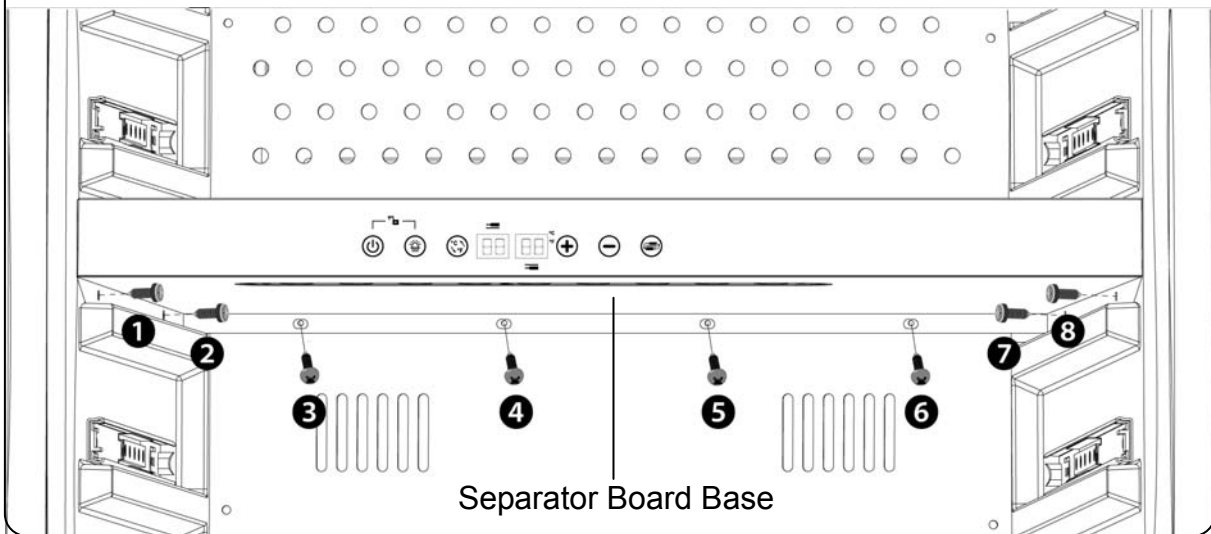

Figure 13
- Separator Board after disassembled (**Figure 13**);